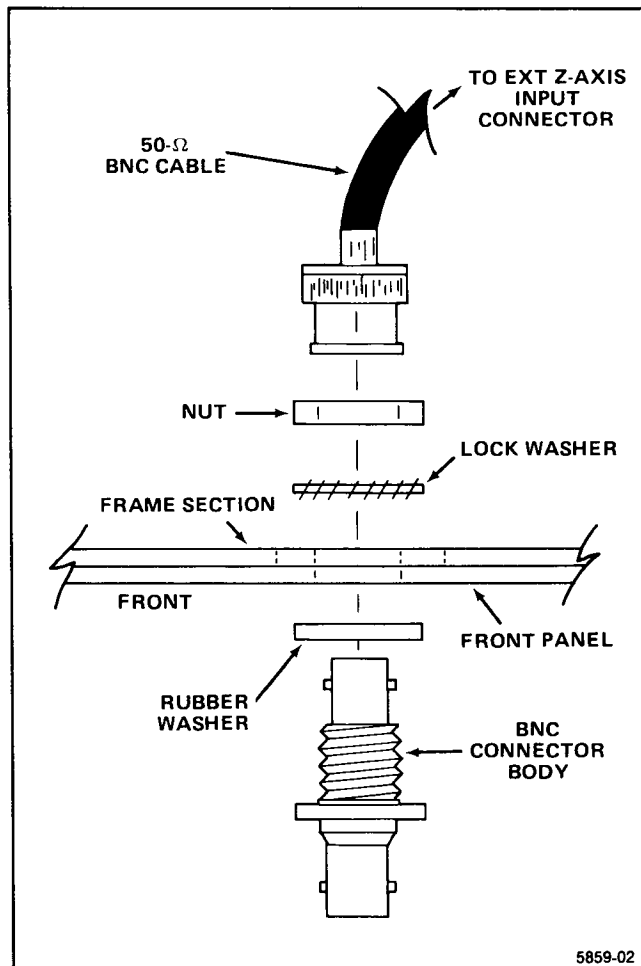

Figure 2. Installing the optional BNC connector(s).
1. Remove the plastic plug (5) from the desired mounting hole on the rack adapter's front panel and install the BNC-to-BNC adapter (see Figure 2).
2. Install the nylon channel grommet (27) into the appropriate hole in the rear support channel.